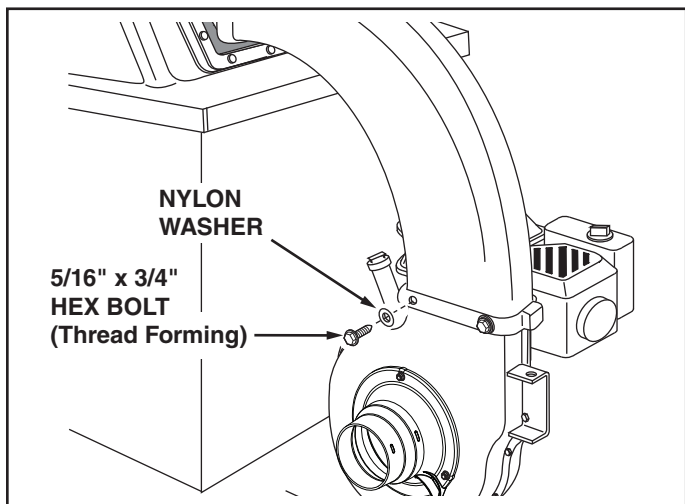

FIGURE 8
11. Assemble the elbow to the impeller housing using four 5/16" x 3/4" self tapping hex bolts and four nylon washers. Push while turning to help start the bolts into the unthreaded holes. **Tighten**. See figure 8.